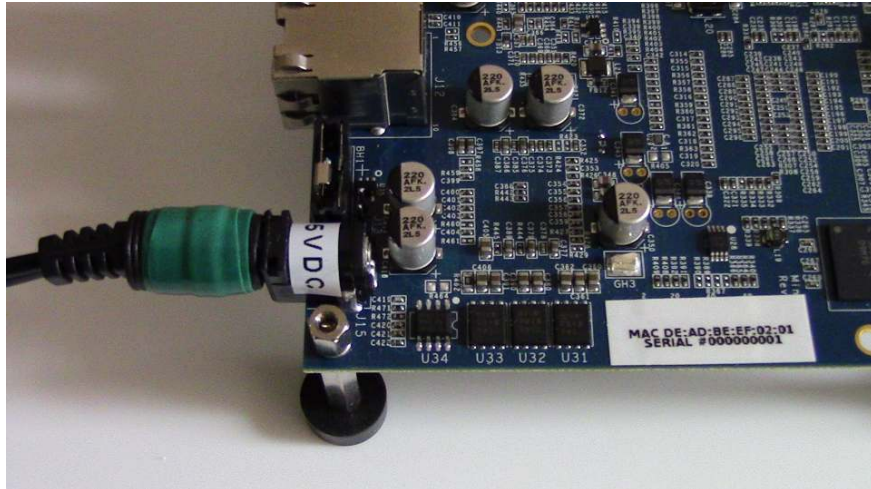

Figure-6: Powering up the MinnowBoard
- Now power up the MinnowBoard, connect the 5V/2.5A power supply to it as shown in Figure -6: